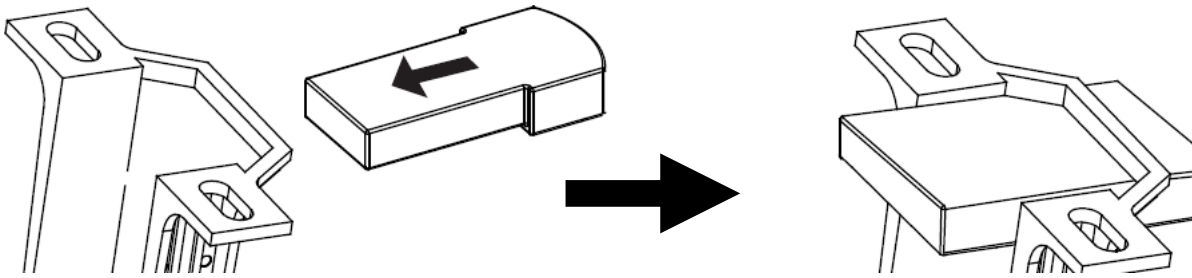

Fig. 9
- Carefully insert the Remote Receiver above the hanger ball in the remainder spacing in the mounting bracket. Take care not to damage or loosen any of the wiring (label 5 & Fig. 9).